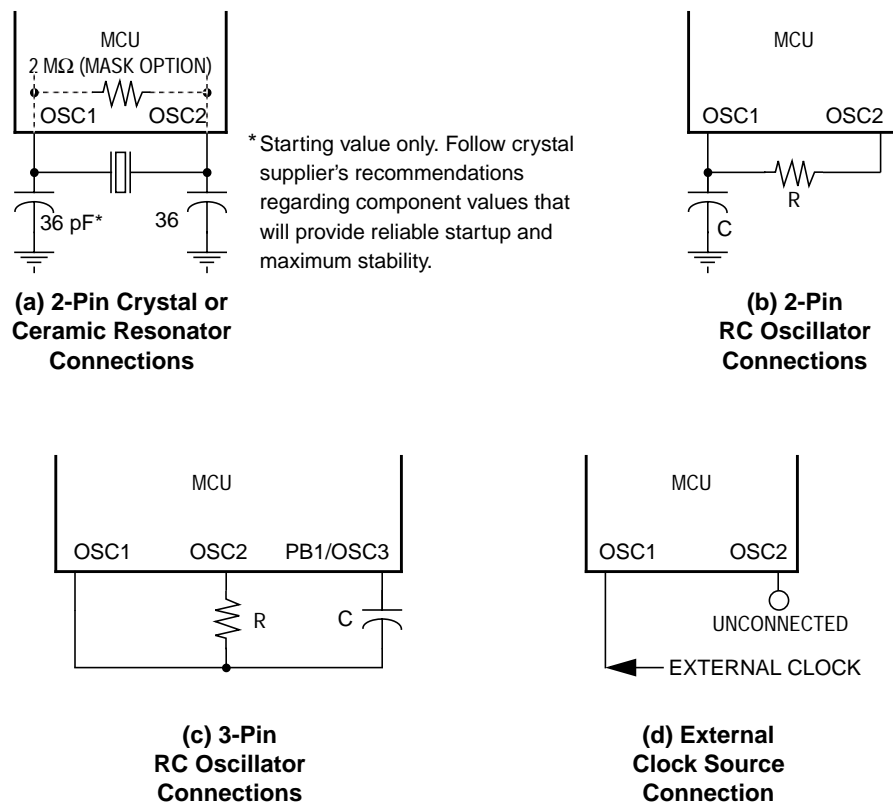

Figure 1-5. Oscillator Connections
1. A crystal, as shown in **Figure 1-5(a)**
2. A ceramic resonator, as shown in **Figure 1-5(a)**
3. An external resistor and capacitor using two pins, as shown in **Figure 1-5(b)**
4. An external resistor and capacitor using three pins, as shown in **Figure 1-5(c)**
5. An external clock signal, as shown in **Figure 1-5(d)**
The circuit in **Figure 1-5(a)** shows a typical 2-pin oscillator circuit for an AT-cut, parallel resonant crystal. The crystal manufacturer's recommendations should be followed, since the crystal parameters determine the external component values required to provide maximum stability and reliable startup. The load capacitance values used in the oscillator circuit design should include all stray capacitances. The crystal and components should be mounted as close as possible to the pins for startup stabilization and to minimize output distortion. An internal startup resistor of approximately $2\text{ M}\Omega$ is provided between OSC1 and OSC2 when the crystal/ceramic resonator oscillator option is used.
In cost-sensitive applications, a ceramic resonator can be used instead of the crystal. The circuit in Figure 1-5\(a\) is designed for either a crystal or a ceramic resonator. The resonator manufacturer's recommendations should be followed, since the resonator parameters determine the external component values required for maximum stability and reliable starting. The load capacitance values used in the oscillator circuit design should include all stray capacitances. The ceramic resonator and components should be mounted as close as possible to the pins for startup stabilization and to minimize output distortion. An internal startup resistor of approximately 2 MΩ is provided between OSC1 and OSC2 for the crystal/ceramic resonator oscillator mask option.
The 2-pin RC oscillator configuration can be used for very low-cost applications. With this option, a resistor must be connected between the two oscillator pins and a capacitor must be connected from the OSC1 pin to V_{SS} , as shown in **Figure 1-5(b)**. The signal on the OSC2 pin is a square wave and the signal on the OSC1 pin approximates a triangular wave.
Another low cost, but more accurate, type of RC oscillator is the 3-pin configuration utilizing the PB1/OSC3 pin. With this option, a resistor must be connected between the OSC1 and OSC2 pins and a capacitor must be connected between the OSC1 and PB1/OSC3 pins, as shown in **Figure 1-5(c)**. This 3-pin RC oscillator is more accurate than the 2-pin RC oscillator with respect to temperature, supply voltage, and/or device processing variations. The signal on the OSC2 and PB1/OSC3 pins is a square wave and the signal on the OSC1 pin approximates a triangular wave.
An external clock from another CMOS-compatible device can be connected to the OSC1 input, with the OSC2 input not connected, as shown in Figure 1-5\(d\). This configuration is possible regardless of whether the oscillator is set up for crystal/ceramic resonator, 2-pin RC, or 3-pin RC operation. However, if the 3-pin RC oscillator is selected, the PB1/OSC3 pin also must be left unconnected.